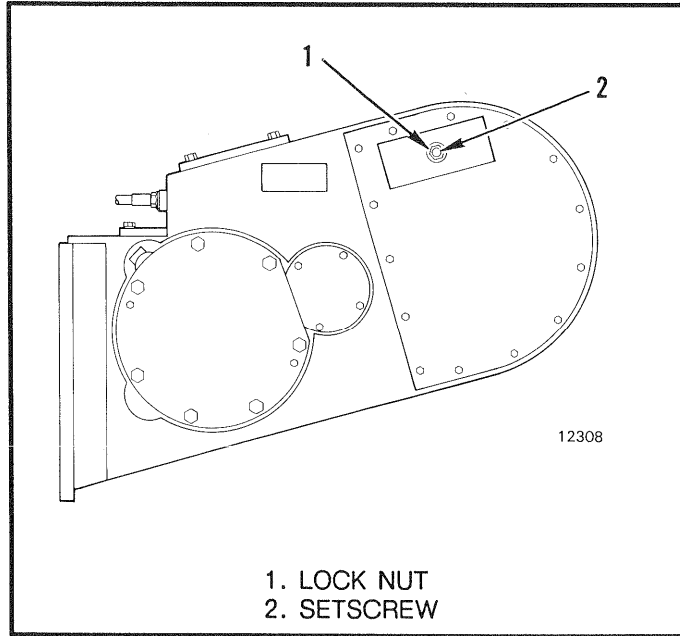

FIGURE 6. "DRAG" SHOE ADJUSTMENT
B. Drag Shoe Adjustment. See FIGURE 6. Loosen the 3/4 inch lock nut (1) on the setscrew (2). Use a 3/8 inch Allen wrench to turn the setscrew 1/4 turn. Turn the setscrew to the right (clockwise) to increase the “drag” or turn the setscrew 1/4 turn to the left (counterclockwise) to decrease the “drag”. Tighten the lock nut. Test the “drag” on the drum. Make additional adjustments as necessary.